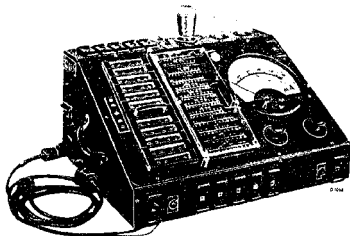

Fig. 3.
2. An output indicator similar to that which is fitted to Philips Universal Measuring Testboard, type 4526. (See Fig. 3.)
Fault-finding will be considerably facilitated by the use of efficient testing apparatus. Attention is drawn to the Philips Universal Measuring Testboard (Fig. 3) which enables both A.C. and D.C. voltages and currents, capacities and resistances, to be measured over a large number of ranges.